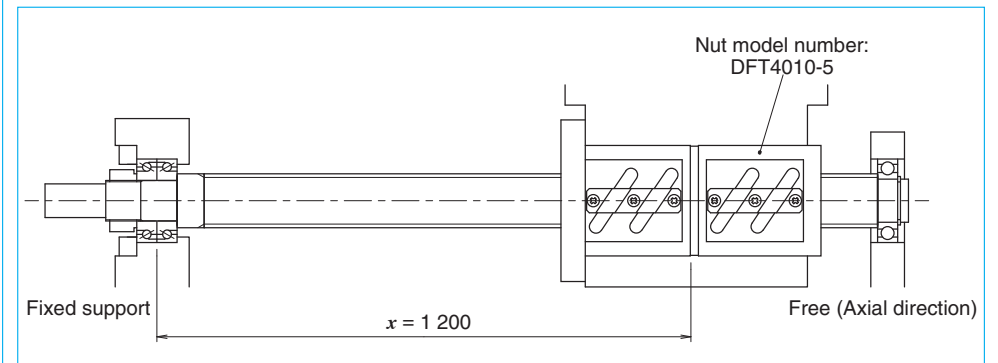

Fig. 6.6 Calculation example of axial rigidity of the screw shaft (1)
Obtain axial rigidity of the screw shaft under the condition in Fig. 6.6.
- From Fig. 6.6: Supporting condition ; Fixed support --Free (axial direction)